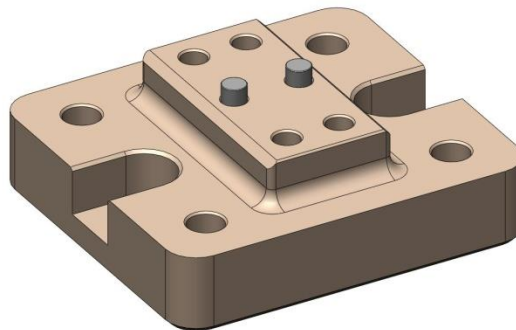

Figure 3.11. Dowel pins pressed into top of Locker Sleeve Base.
- Press (2) 3/8"x1.0" dowel pins into each of (4) **Locker Sleeve Bases** (D071140), as shown in Figure 3.11. Pins should stand .25" proud of the top surface.